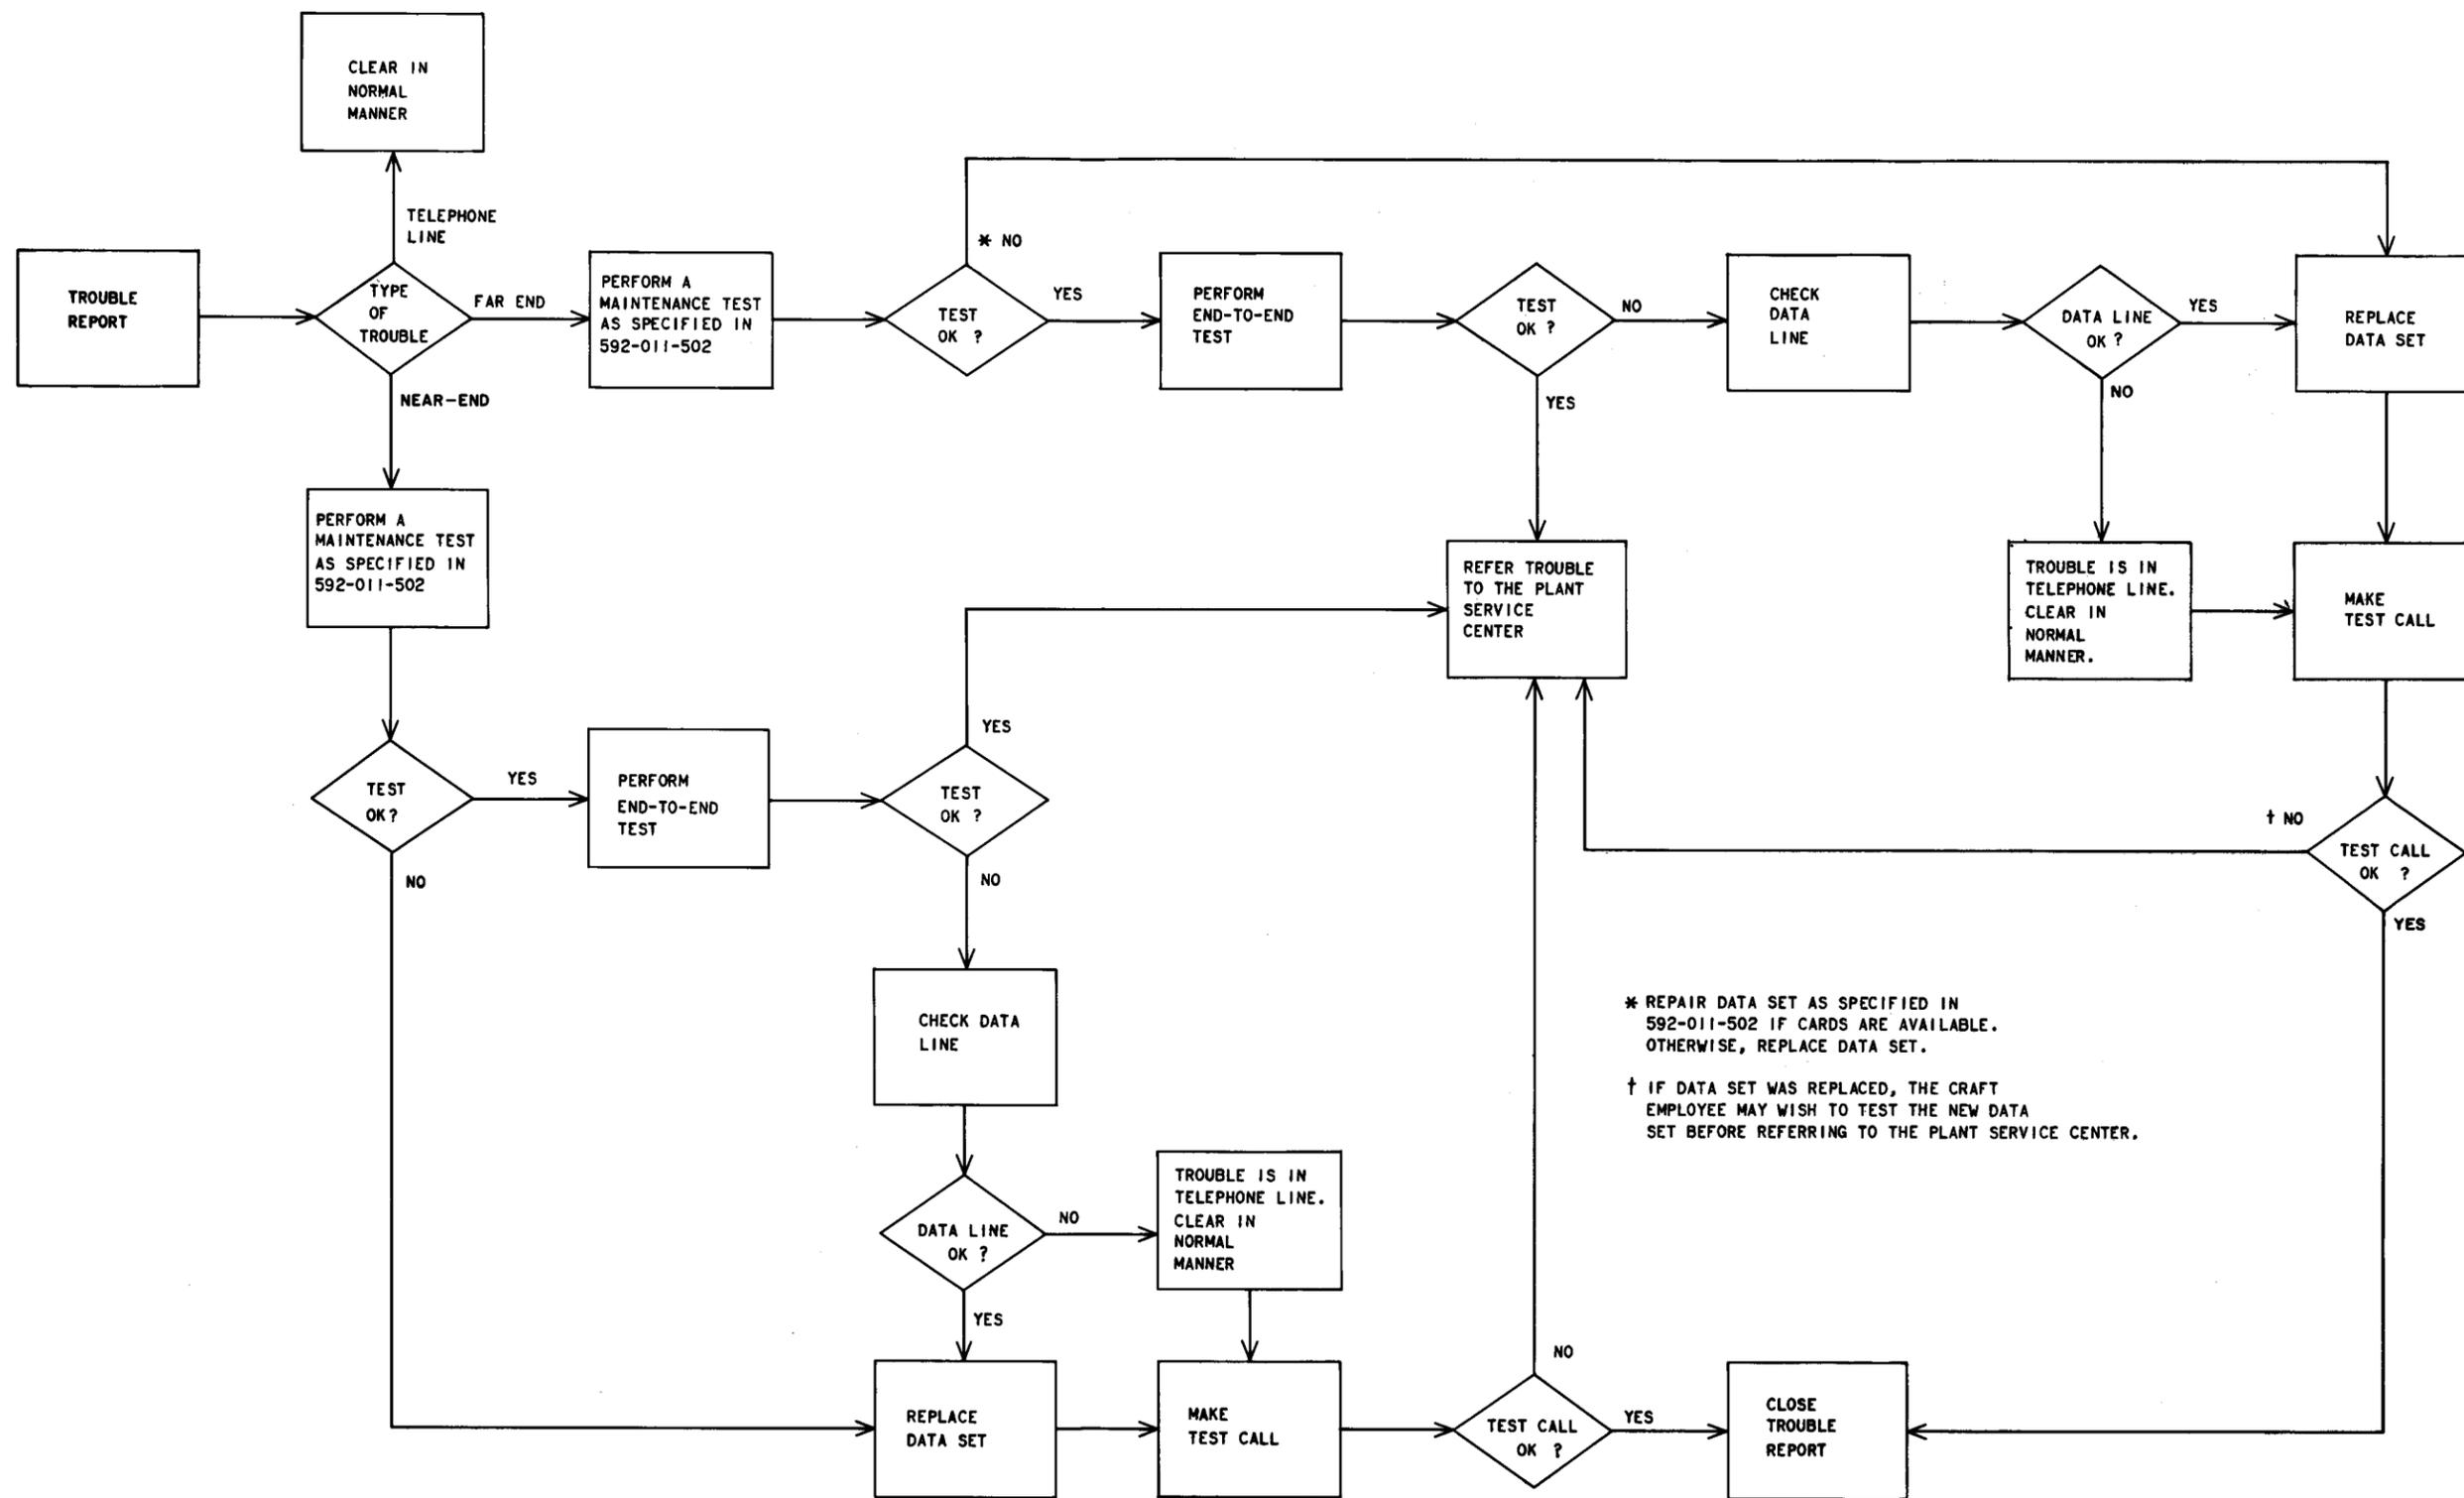

Fig. 1—Trouble Reporting and Investigating
2.01 When investigating a trouble report, proceed as outlined in Fig. 1. For information on testing data set 201 list type, refer to the section entitled Data Sets 201A- and 201B-List Type Transmitter-Receiver—Test Procedures (592-011-502). If the 914-type data test set is used, it will be necessary to first perform the installation test in order to obtain the information required for finding and replacing the defective cards in the data set. If new cards are not available to replace any defective cards found, the data set must be replaced. When replacing a data set, the new data set must have the same list combination and option strapping as the data set being replaced.